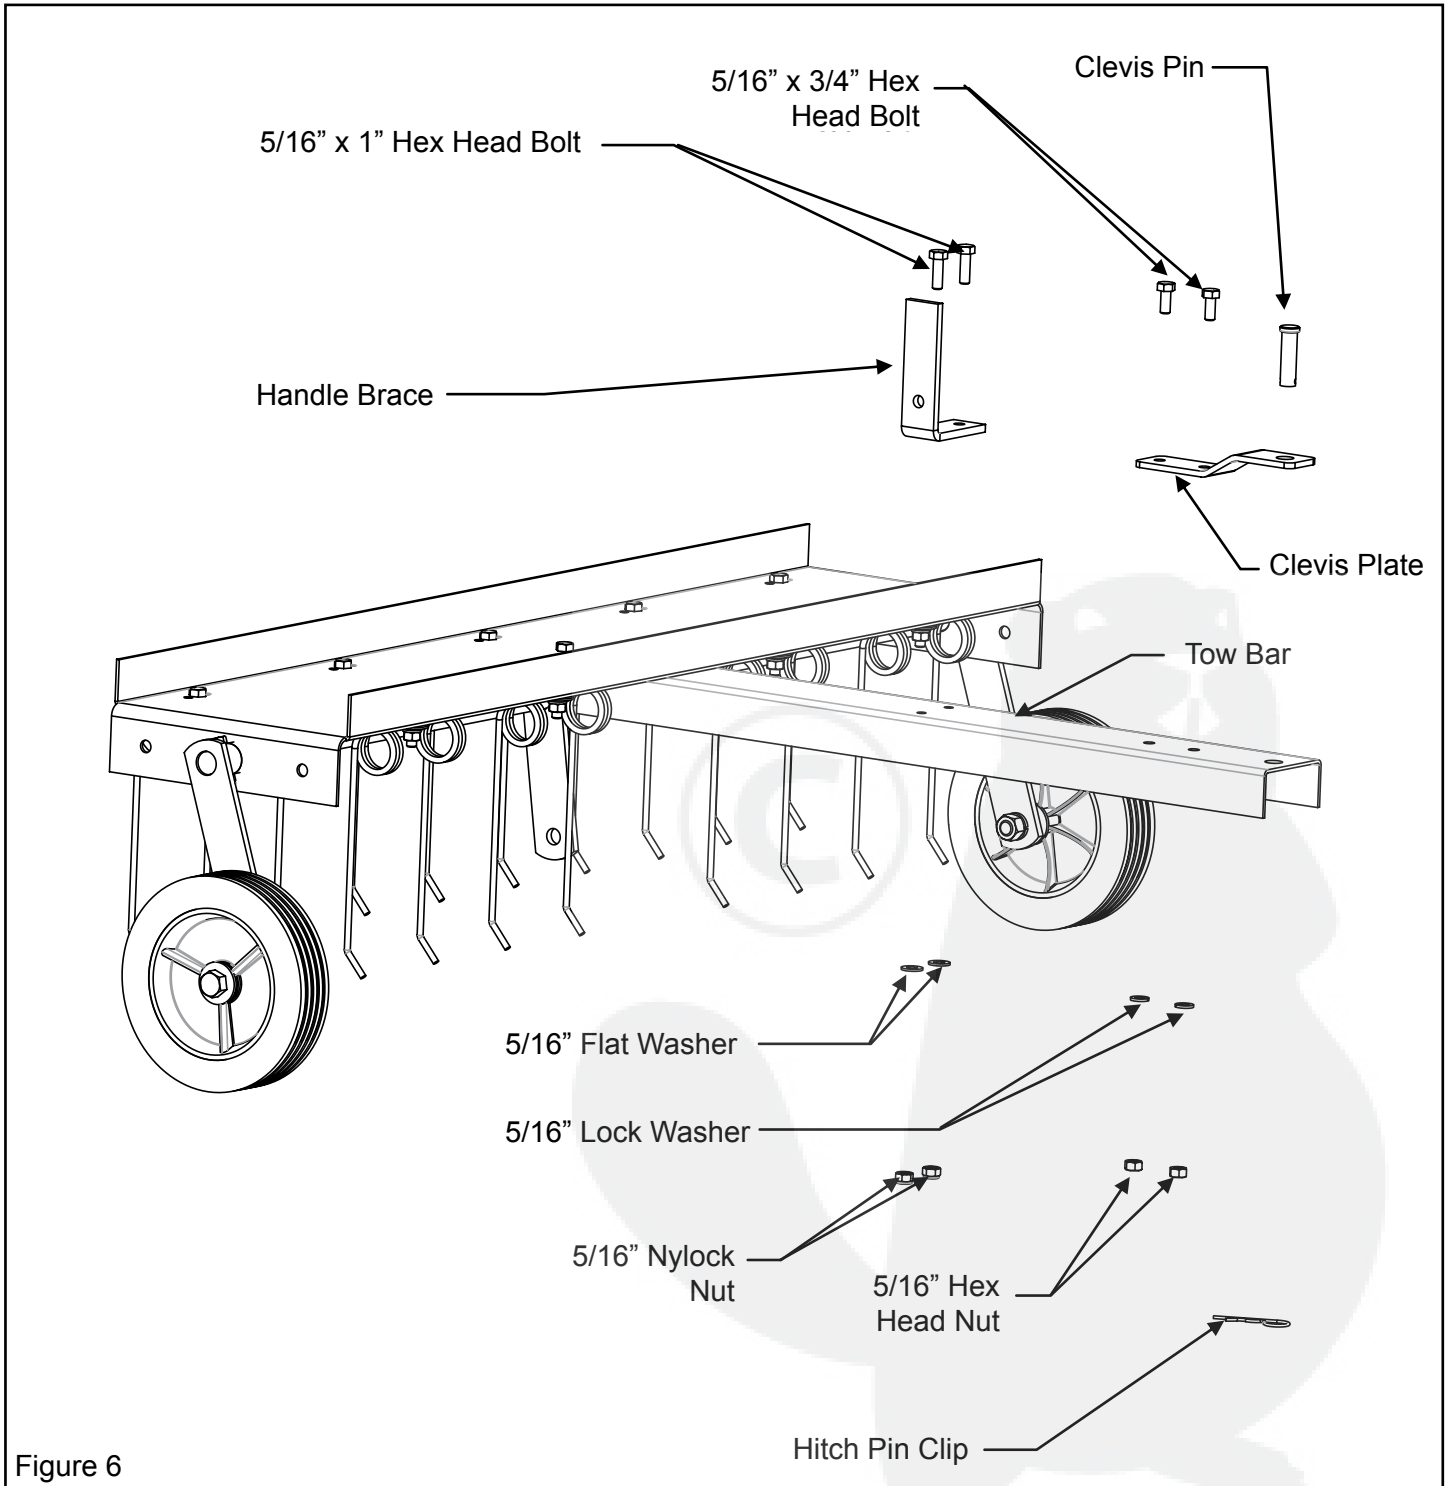

Figure 6
6. Align the two holes of the Tow Bar and Handle Brace as shown. Insert a 5/16" x 1" Hex Head Bolt into one of the holes in the Handle Stop and then through the corresponding hole in the Tow Bar, place a 5/16" Flat Washer on to the bolt, and secure with a 5/16" Nylock Nut. Repeat process on the next hole. Insert a 5/16" x 3/4" Hex Head Bolt into one of the two smaller holes on the Clevis Plate and then into the corresponding hole in the Tow Bar, place a 5/16" Lock Washer onto the bolt and secure with a 5/16" Hex Head Nut. Repeat process on the next hole. Insert the Clevis Pin through the larger front hole of the Clevis Plate and through the hole in the Tow Bar and secure with the Hitch Pin Clip. See Figure 6.